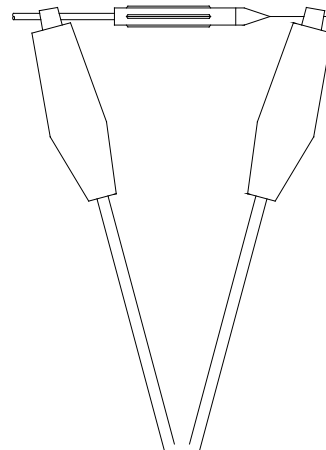

Figure 6: Testing Resistive Electrode
2. Using a VOM meter that will read 15 megohms accurately, connect one meter lead to the metal needle shaft and the other lead to the wire at front of electrode. Electrode should be 14.5 to 19 megohms (nominal 15 megohms at 9 volts or 11 to 17 megohms at 1000 volts). Electrodes outside this range must be replaced (see Figure 6).